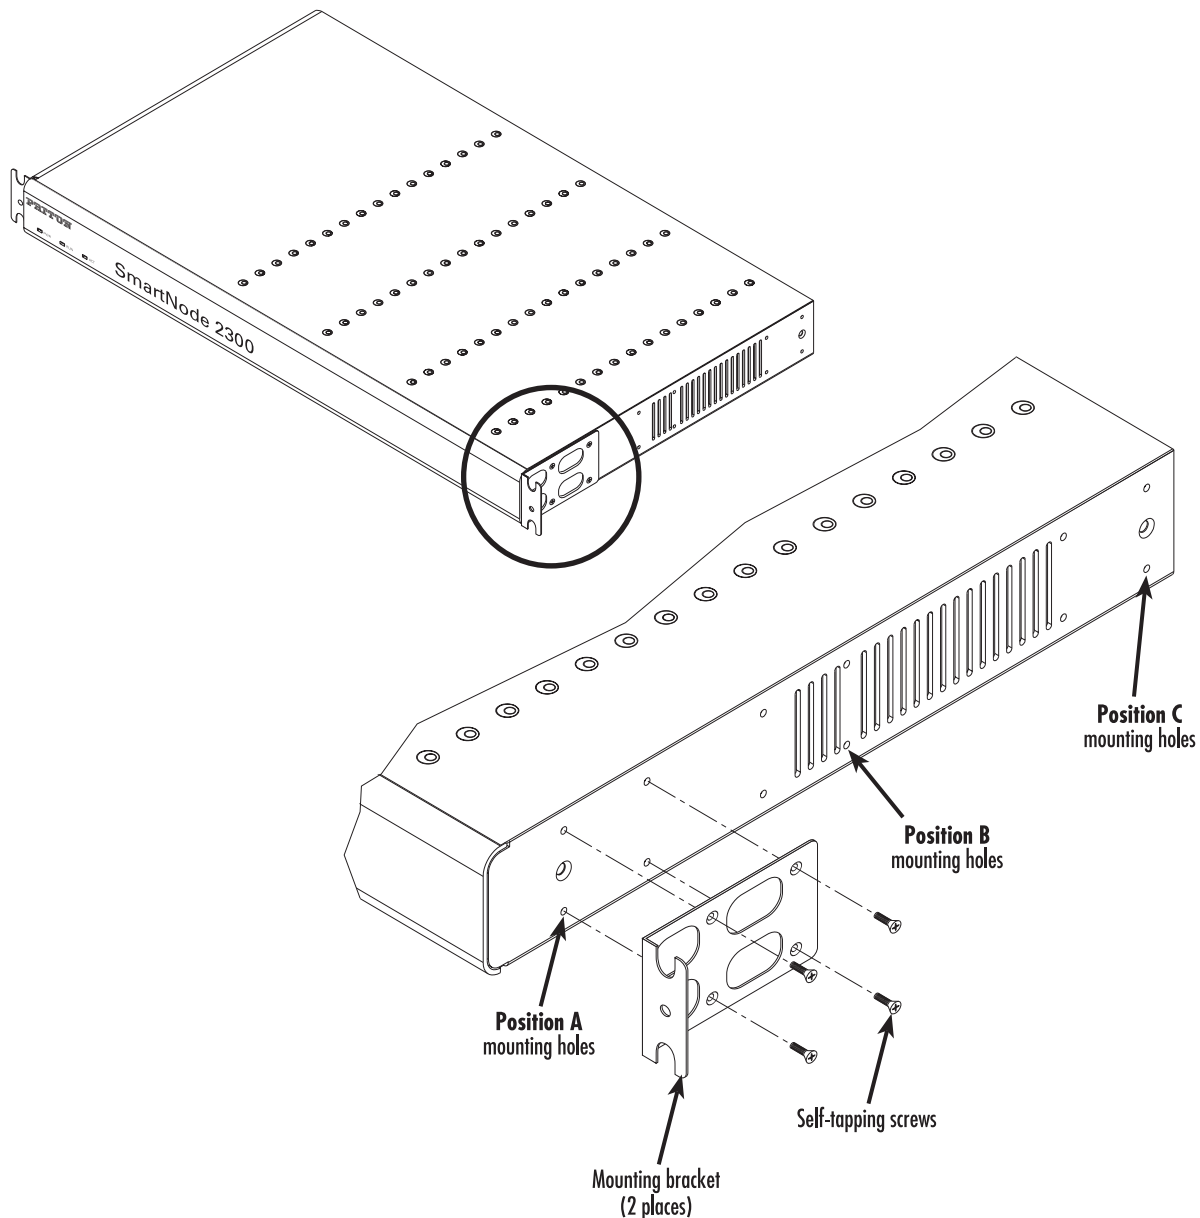

Figure 56. SmartNode 2300 rack mounting bracket location holes
1. Locate the two angled mounting brackets included in the installation kit pack. The bracket (see figure 56) is designed so you can have the 1.5 cm flange facing to the front or to the rear. There are four holes for countersunk screws on the long side of the bracket.
2. Attach a bracket to each side of the SmartNode 2300 with the four self-tapping screws provided. There are three mounting positions for the brackets (positions A, B, and C as shown in figure 56 on page 95), so choose the one that best suits your requirements.